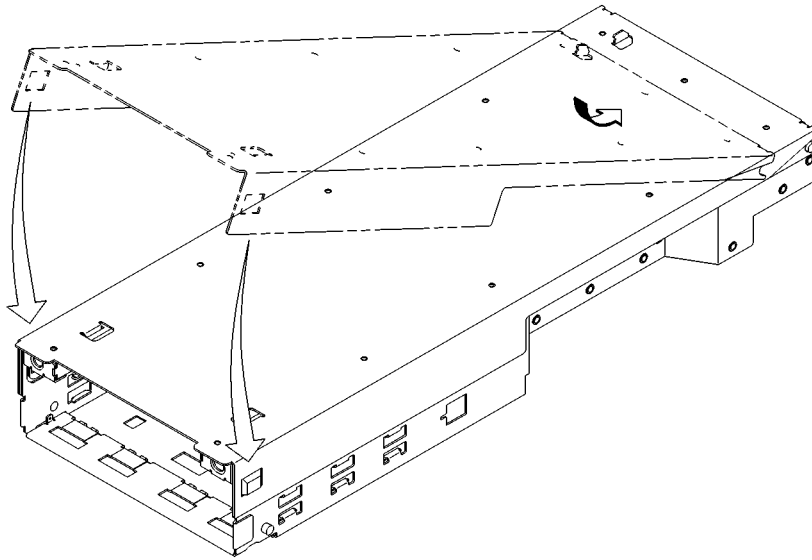

Figure 68 Replacing the Storage Tray Cover
- 10 Slide the cutouts on the rear of the storage tray cover onto the pins on the storage tray and swing the cover into place, as shown in Figure 68.